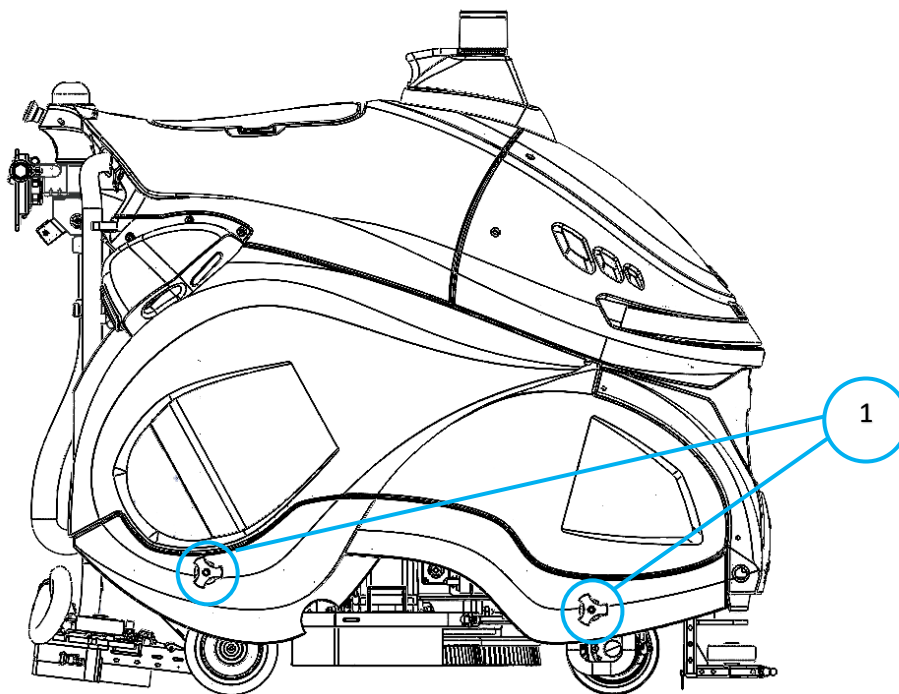

Fig. 1
1. Unfasten the two blue knobs on the right side of the REX (Fig.1).